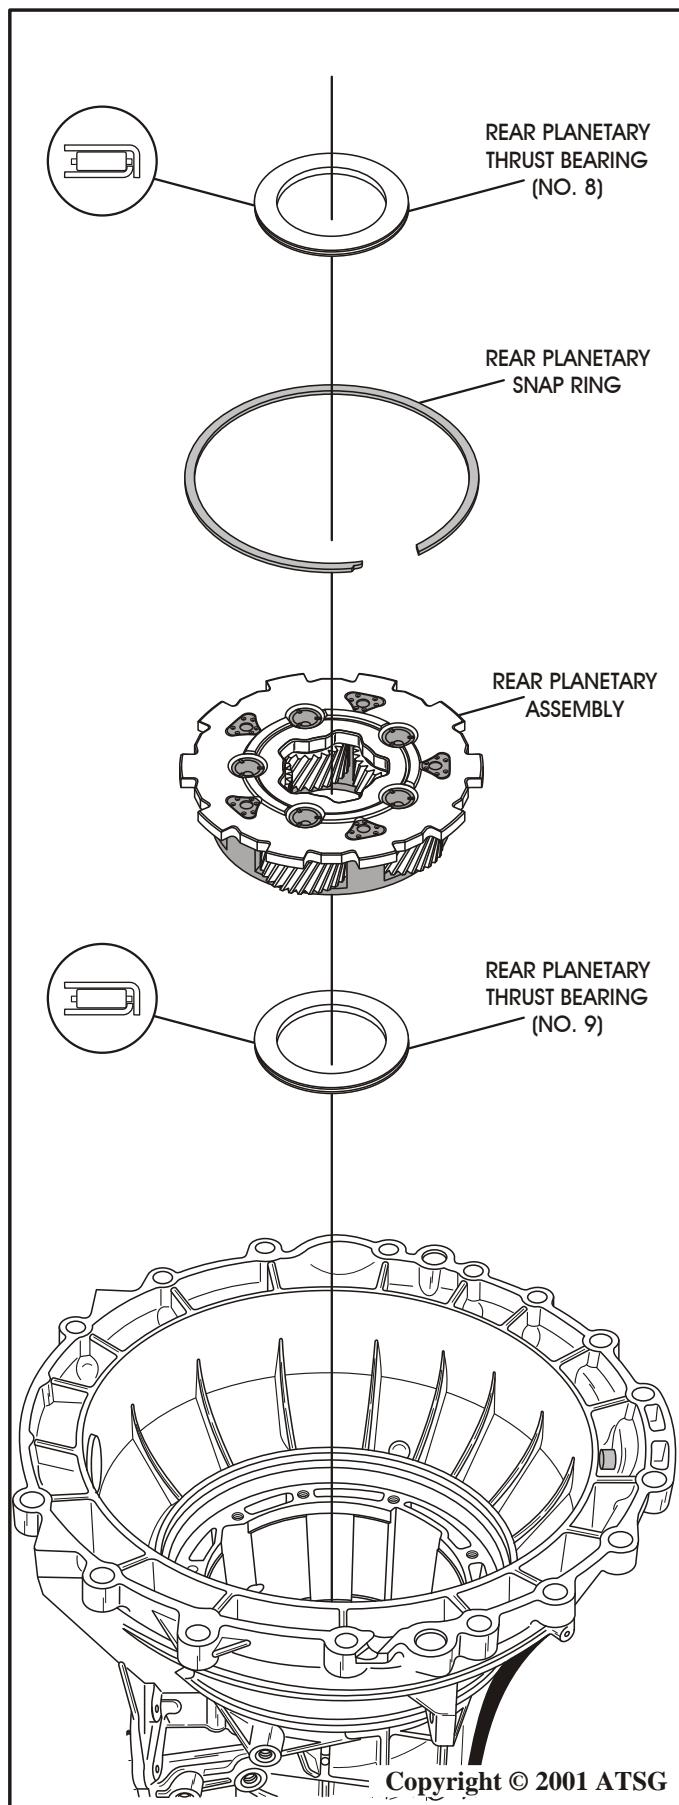

Figure 146
14. Install the rear planetary thrust bearing (No 9) into rear ring gear in the direction shown in Figure 146, and retain with a small amount of Trans-Jel®.
15. Install the rear planetary carrier assembly, as shown in Figure 146, by rotating into position.
16. Install the rear planetary snap ring into groove in reverse drum and ensure it is fully seated. (See Figure 146). **Note:** Reverse drum will must be lifted up to install snap ring.
17. Install the rear planetary thrust bearing (No 8) onto rear planetary in the direction shown in Figure 146, and retain with a small amount of Trans-Jel®.